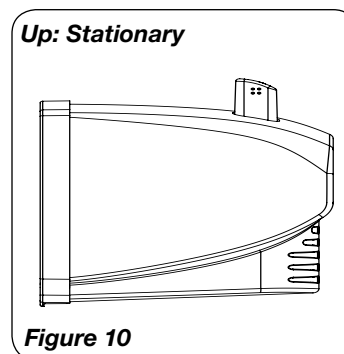

Figure 10
4. **OSCILLATION:** Push down oscillation knob on motor housing to make fan head move from side to side. (*Figures 10 and 11*)